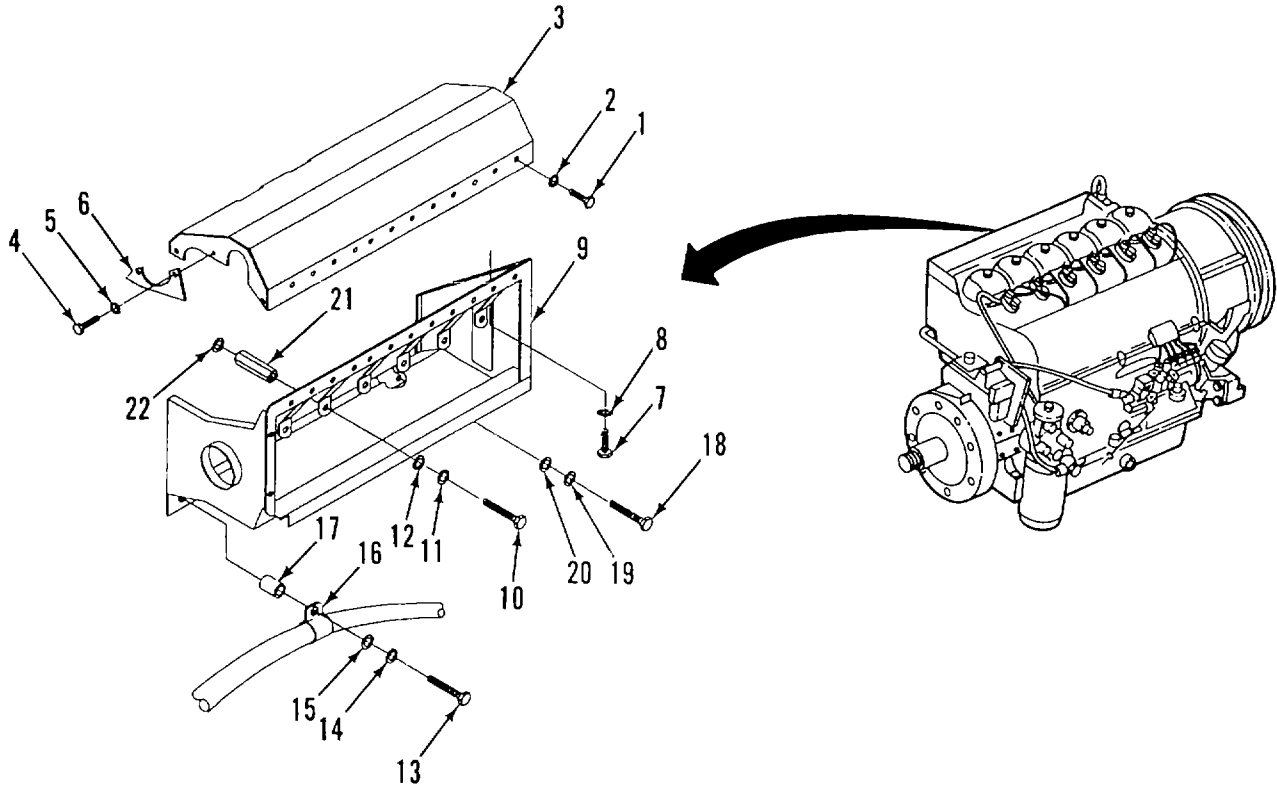

Figure 3-21. Air Outlet Frame
a. REMOVE. (Figure 3-21)
- (1) Remove bolts (1) and lockwashers (2) holding side of top cover (3).
- (2) Remove bolts (4), flat washers (5), and cover plate (6).
- (3) Remove two bolts (7) and lockwashers (8) from the inside of bottom case (9).
- (4) Remove top cover (3).
- (5) Remove bolts (10), lockwashers (11), and flat washers (12).
- (6) Remove bolts (13), lockwashers (14), and flat washers (15) that hold two clamps (16) and spacers (17) on oil inlet line.
- (7) Remove bolts (18), lockwashers (19), flat washers (20), and lower case (9).
- (8) Remove threaded inserts (21) and flat washers (22).